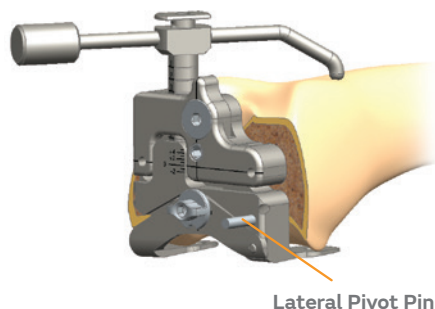

Figure 21
3. Place the appropriate sizing guide (left or right) flush against the resected distal femur. Ensure the posterior paddles are contacting the underside of both posterior condyles. Once correct position of sizing guide is established, place a pin through the hole just above the lateral paddle (**Figure 21**).